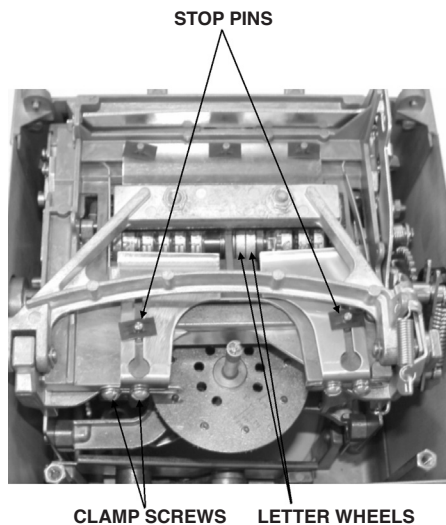

FIGURE 4
1. With top cover removed the "letter" wheels are visible. (See Figure 4)